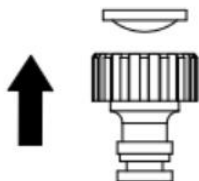

Fig.13
- Remove the hose adapter to get the filter screen. (See Fig. 13) Rinse it with clean water before reassembling.